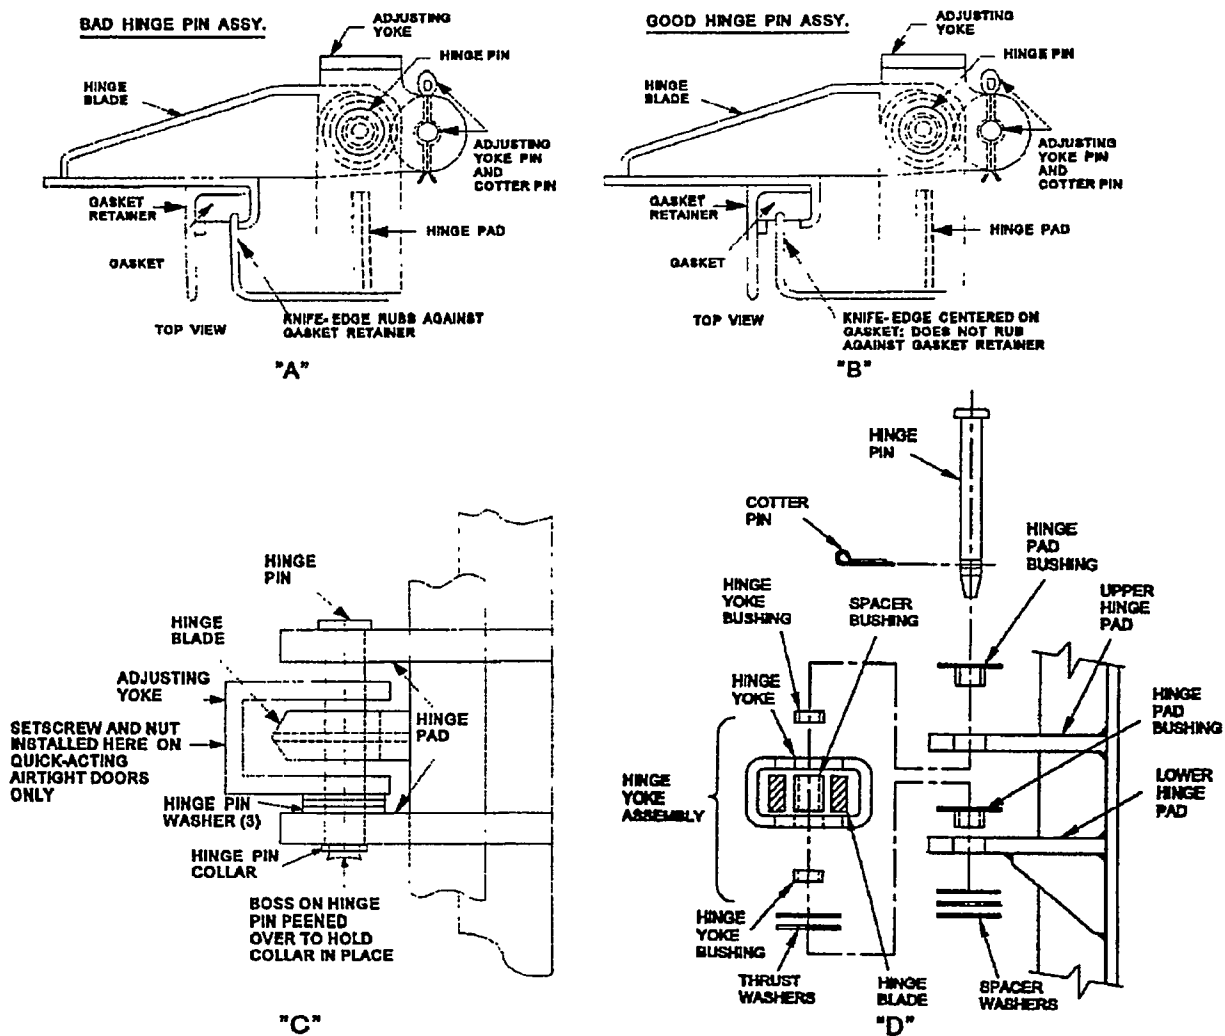

Figure 600-2.5. Hinge Pin Assemblies
- d. Visually inspect the hinge sleeves and hinge pins (on doors without Machinery Alteration (MACHALT) 167-31006 Engineering Change Proposal (ECP) 518 installed) for wear. Visually inspect the hinge pad bushings, hinge yoke bushings, spacer bushing, and hinge pin (on doors with MACHALT 167-31006 (ECP-518) installed) for wear. With the door opened, grasp the door from the hand lever side and push it toward the hinged side. The door should not give more than approximately 3/16 inch. If it does, either the hinge pins and/or washers are worn, or the holes for the hinge pins have become enlarged. Do not confuse hinge pin wear with normal play in the hinge blades. Another indication of hinge pin wear is if the metal channel surrounding the gasket on the door side is rubbing against the knife-edge, or if the door panel rubs one or more side dogs when opening or closing. (See figure 600-2.5, "A") A good hinge and alignment are illustrated in figure 600-2.5, "B". Replace the hinge pin washers and/or pins (on doors without MACHALT 167-31006 (ECP-518) or MACHALT 167-31011 (ECP-538) installed), or replace the hinge pad bushings, hinge yoke assembly, thrust washers, yoke pin spacer, and hinge pin (on doors with MACHALT 167-31006 (ECP-518) or MACHALT 167-31011 (ECP-538) installed), if any of the following conditions exist:
4. The hinge pin washers (on doors without MACHALT 167-31006 (ECP-518) or MACHALT 167-31011 (ECP-538) installed) are worn thin to approximately 1/32 inch. New washers are 1/16 inch in thickness. See figure 600-2.5, "C.". The thrust washers or the flange on the hinge pad bushings (on doors without MACHALT 167-31006 (ECP-518) or MACHALT 167-31011 (ECP-538) installed) are worn thin to approximately 1/32 inch. New thrust washers and the flange on new hinge pad bushings are 1/16 inch in thickness. See figure 600-2.5, "D".